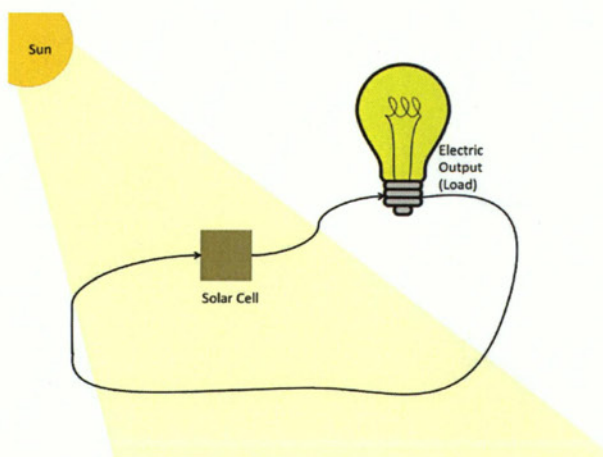

Figure 1: Simple schematic of a solar cell circuit appropriate for a grade school activity
cell from berries, which will engage participants of all ages; see Figure 1 for a simple schematic. As the world comes to the realization that our petroleum and natural gas sources are running low(14) and that it is time to find a better solution, the importance of finding and utilizing renewable energy is becoming more